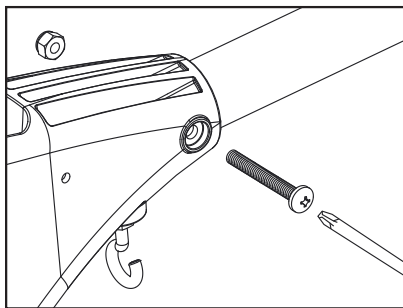
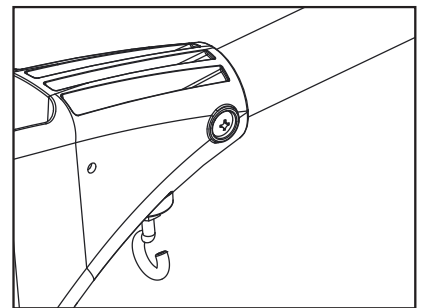

Figure 2
Figure 3
2. Remove 1/4-20 x 2" bolt and 1/4-20 nylon locknut from included hardware bag assembly and insert the locknut into the hex pocket on the nose of the frame. Insert 1/4-20 x 2" bolt into reel side of frame nose. (Figure 2)
3. With a Phillips head screw driver, thread bolt into nylon locknut from step 2 (Figure 2). Tighten bolt until the end of the bolt is flush with the top of the nut. (Figure 3)